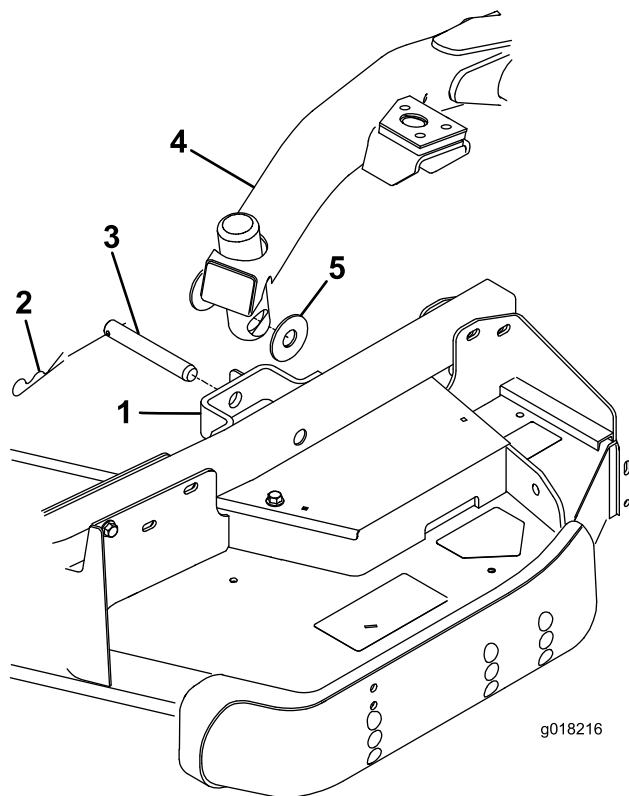

Figure 26
line up with the holes in the castor arm bracket and the height of cut rod can be inserted into the lift arm pads (Figure 26).
5. Secure the lift arm to the castor arm with (2) thrust washers, a clevis pin and a hair pin cotter. Position the thrust washers between the lift arm and the castor arm bracket (Figure 26). Insert end of cotter pin into the slot in the castor arm tab to retain cotter pin.